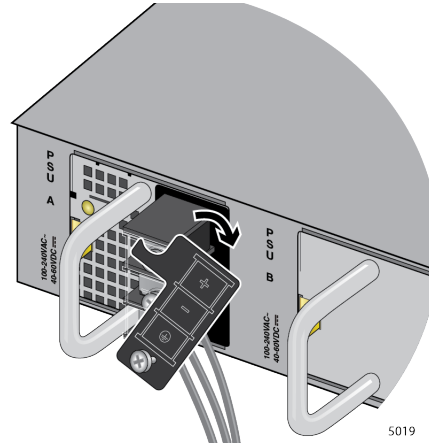

Figure 136. Accessing the Connecting Screws
3. Press the panel to the right to access the connecting screws as shown in Figure 136 on page 195.